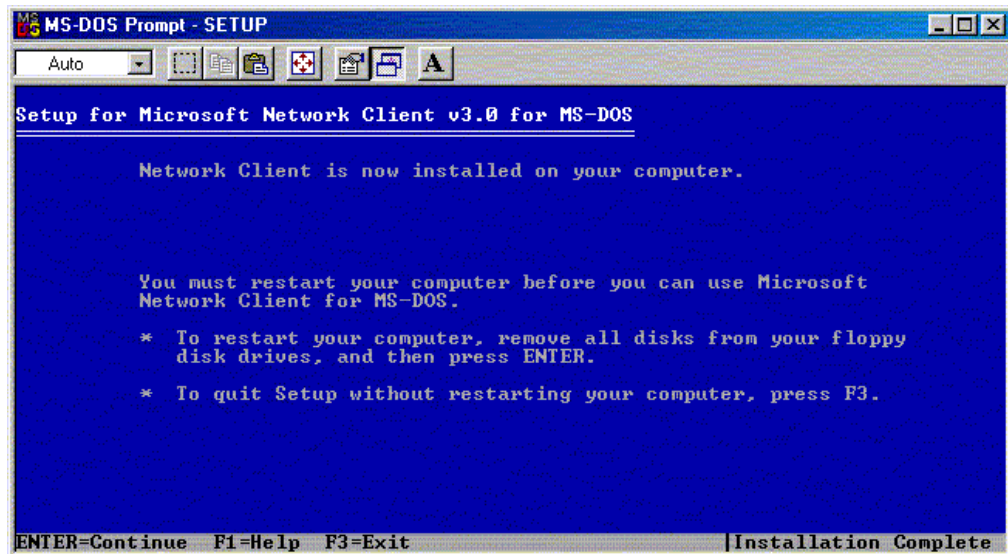

Figure A-16: Final Network Client 3.0 status screen
- Press the **F3** key to return to the DOS prompt after the file copy and configuration processes complete. A final status screen similar to Figure A-16 is displayed.